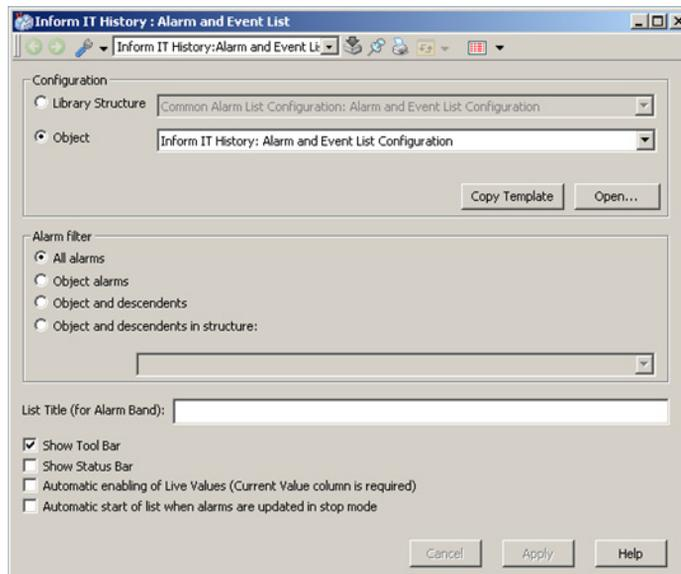

Figure 102. Object Configuration
- From the Configuration View of the Alarm and Event List Aspect, select the **Object** radial button (Figure 102).